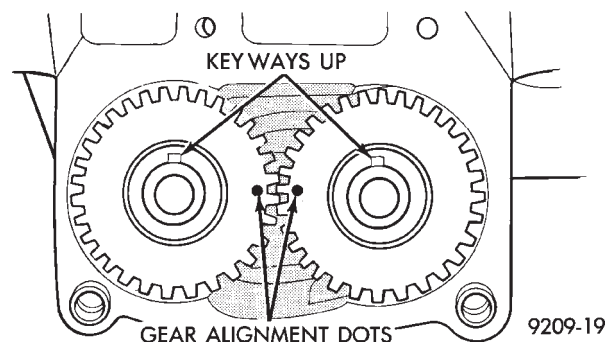

Fig. 20 Gear Timing
- (2) Turn balance shafts until both shaft key ways are up Parallel to vertical centerline of engine. Install short hub drive gear on sprocket driven shaft and long hub gear on gear driven shaft. After installation gear and balance shaft keyways must be up with gear timing marks meshed as shown in (Fig. 20).
- (3) Install gear cover and tighten double ended stud/washer fastener to 12 N•m (105 in. lbs.).
- (4) Install crankshaft sprocket and tighten socket head torx screws to 13 N•m (130 in. lbs.).